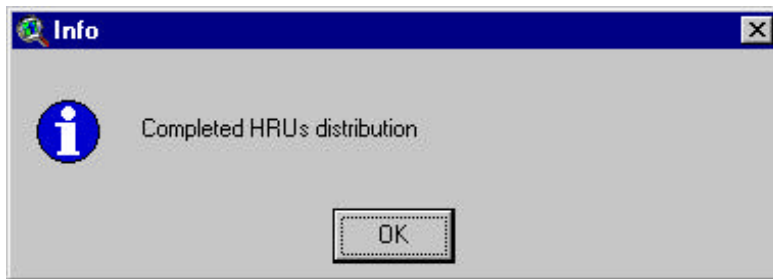

Figure 6.56
6. Once the HRUs are created a message dialog pops up (Figure 6.56).